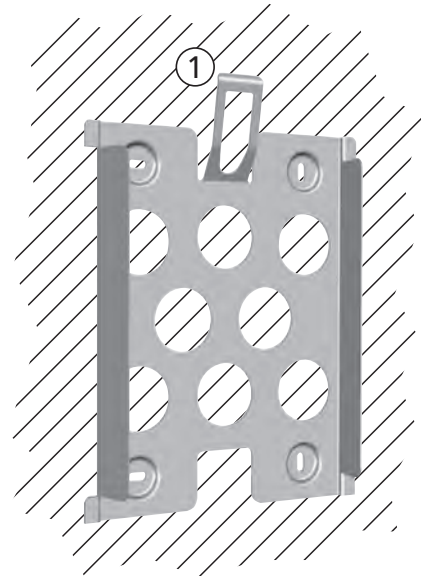

Figure 37
- The mounting plate must lie flat on the mounting surface and the metal strips at the sides must point forwards (Figure 37).
- Install the mounting plate vertically with the retaining plate ① at the top (Figure 37).